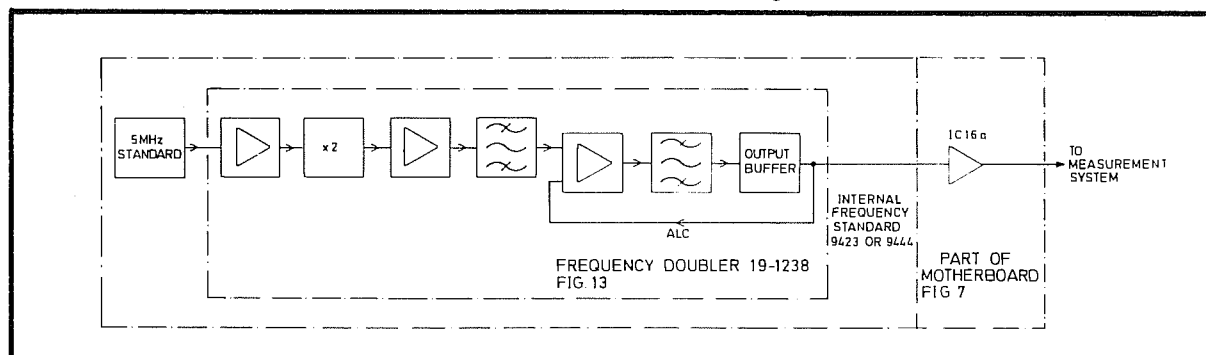

Fig 6.10 9423 and 9444 Oscillators
- 93 The basic frequency standard and the TXCO option are 10 MHz oscillators, whereas frequency standards 9423 and 9444 each comprise a 5 MHz oscillator and a frequency doubler. A block diagram of the 9423 and 9444 oscillators is shown in Fig 6.10.